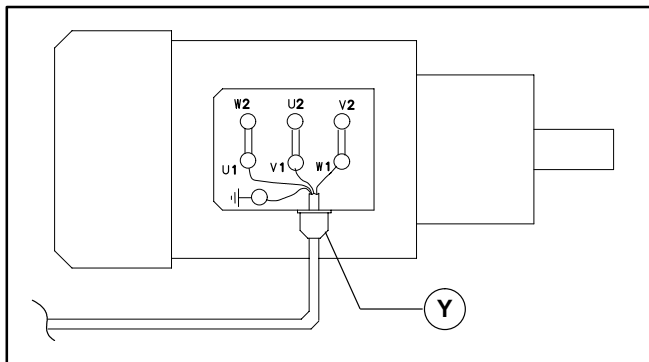

Figure 16
- b. Record wire colors on terminals U1, V1, W1 and ground ( $\perp$ ) (Figure 16). Loosen terminals U1, V1, W1 and ground and remove wires.
- c. Loosen cord grip (Y of Figure 16) and remove cord.